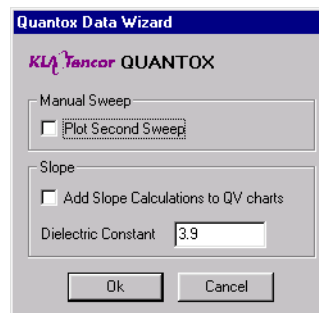

Figure 6-14: Advanced Options for Oxide Trace Data
3. To add slope calculations to the charts, click the Advanced... button and select the desired option in the dialog box shown in Figure 6-14.